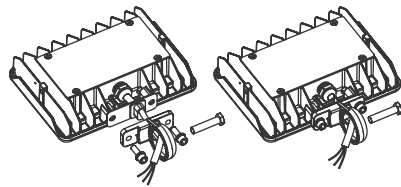

Fig. 1.2
3. Match the hole of the hardware and rubber gasket with the bracket. Then pass the wire through the hole, and connect with bolts (Fig. 1.2). Do not damage the wires.